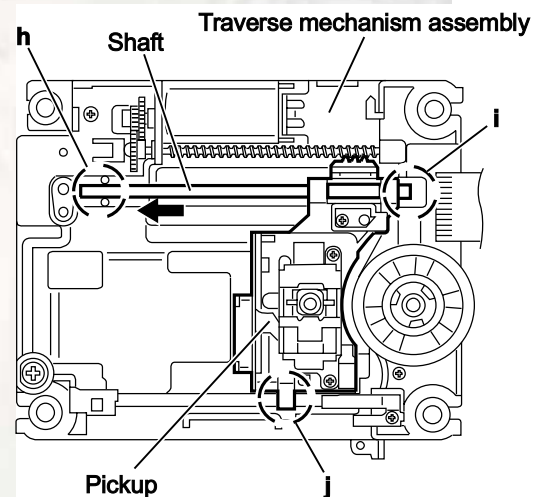

Fig.8
- (5) Remove the shaft of the pickup from the section **h** on the traverse mechanism assembly and remove the shaft from the section **i** while moving it in the direction of the arrow. (See Fig.8.)
- (6) Remove the pickup from the section **j** of the traverse mechanism assembly and take out the pickup with the shaft. (See fig.8.)
- (2) Align the pickup to the section **j** of the traverse mechanism assembly first, and set the both ends of the shaft of the pickup in the sections **g** and **i** of the traverse mechanism assembly. (See Fig.8.)